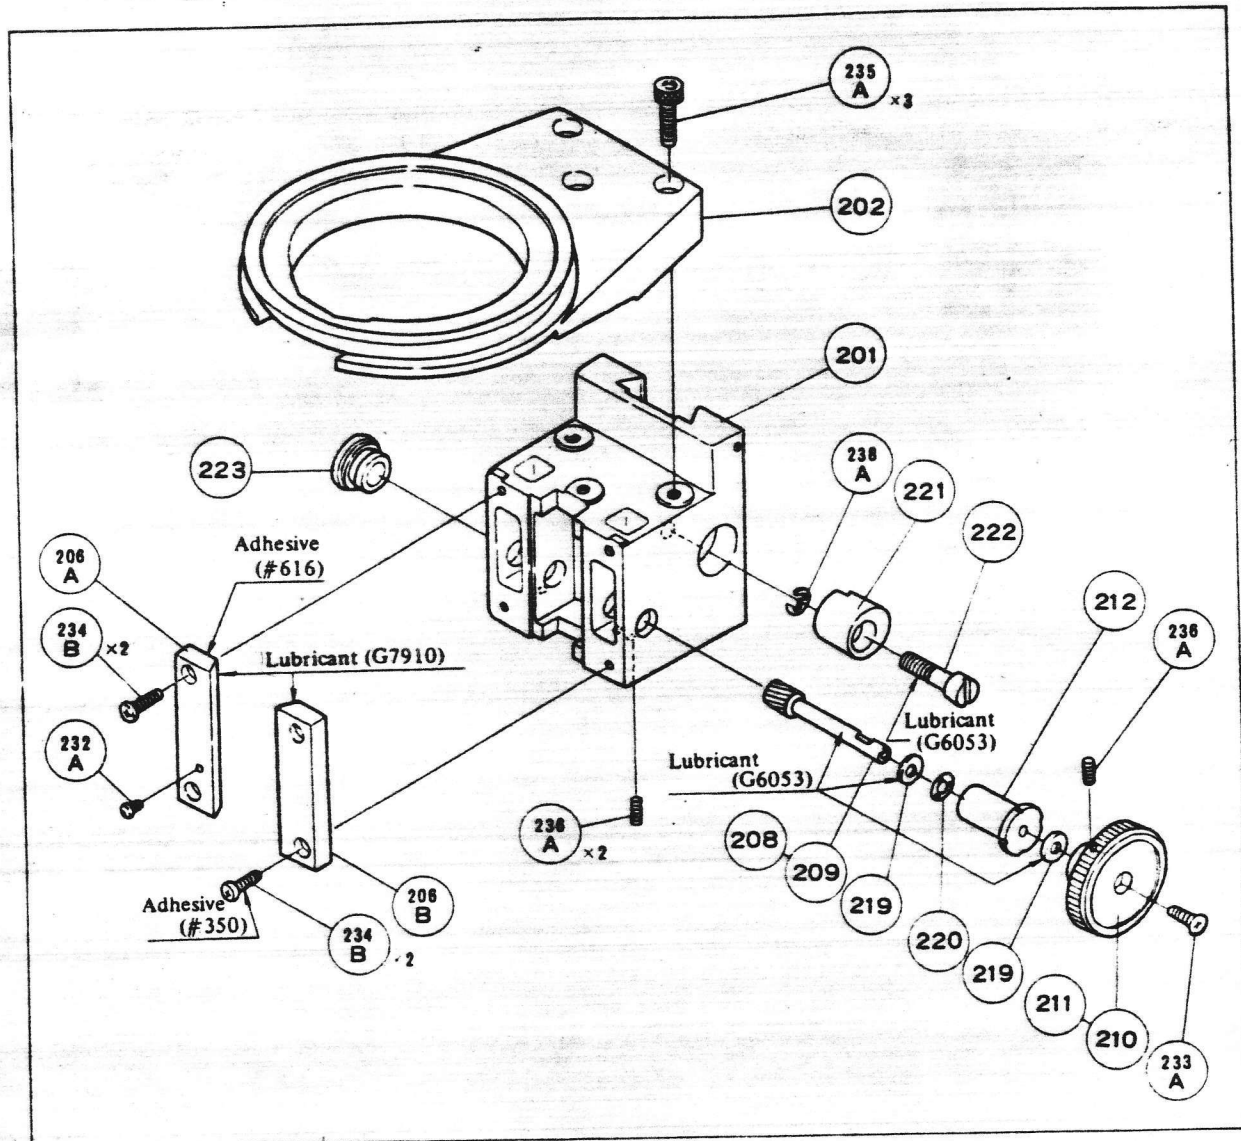

Fig. 28
- 2) After releasing two set screws (236A) on the bottom of (201), remove pinion bearing (212). (Fig. 28).
- 3) Pinion (208) and pinion shaft (209) can be taken off, after condenser focus knob (210) (combined with bush (211)) has been removed. (Fig. 28).
- 4) After unscrewing PM screw (232A) on the (206A), remove the condenser carrier subassembly. (Fig. 28).
Condenser centering mount (303) and dovetail (205) having been attached in the correct position, using the tool, it is not recommended to detach them, so far as no problem arises. (Fig. 28).
- 5) Since of the two dovetail grooves ( 206A and 206B ), 206A is to be used as fiducial in reassembly, remove only 206B in disassembly. (Fig. 28).